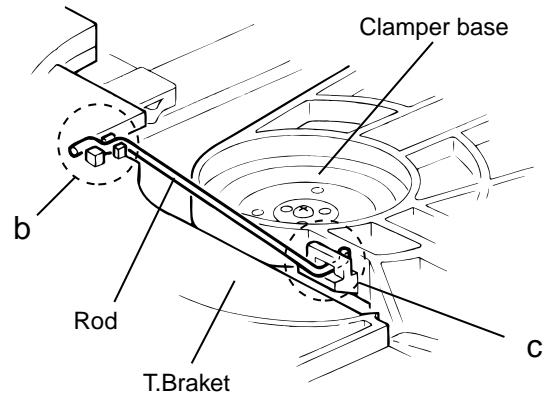

Fig.2
## ■Removing the CD tray assembly (See Fig.2~4)
6. From the clamper base section "c", remove both of the edges fixing the rod(See Fig.2 and 3).